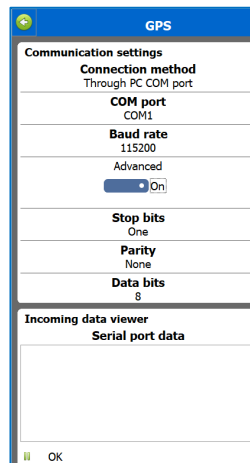

Figure 31 GPS connection through PC COM port
- Through PC COM port. Figure 31.